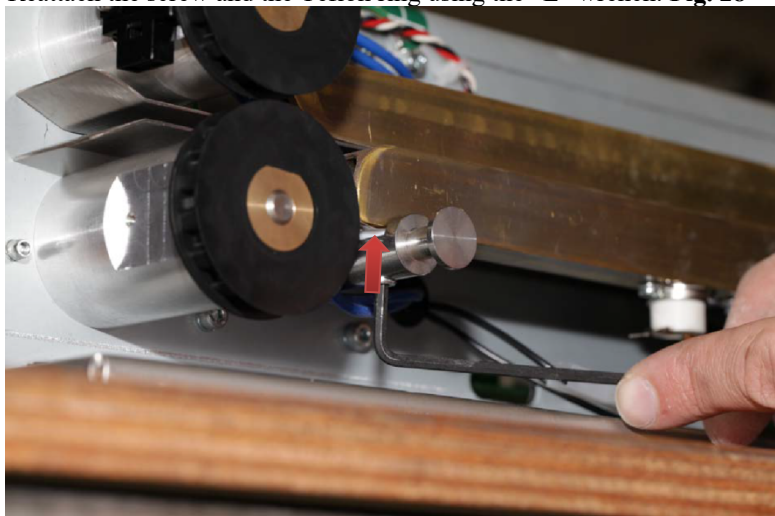

Figure 28
28. Reattach the screw and the Teflon ring using the “L” wrench. **Fig. 28**